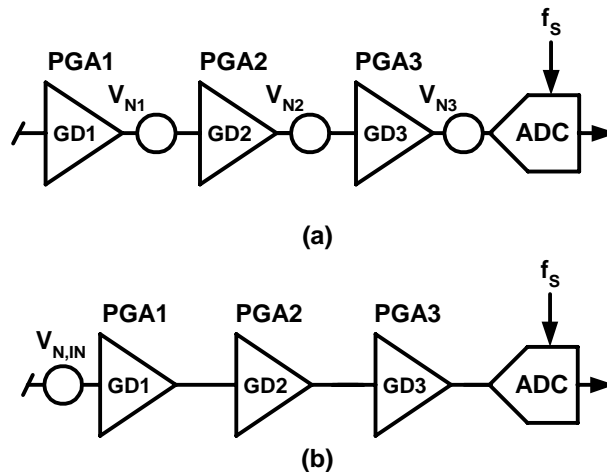
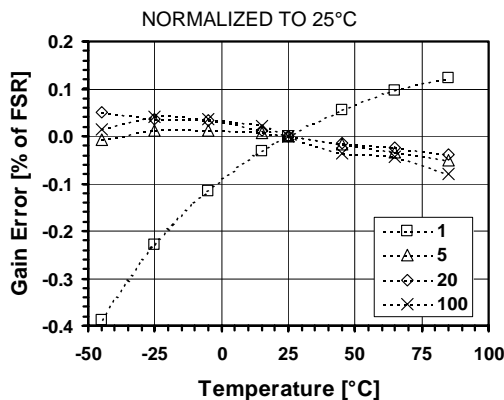

Figure 17-18. (a) Simple noise model for PGAs and ADC
Figure 17-19. Gain error vs. temperature for different PGA gains
- (1) Gain defined as overall PGA gain $GD_{TOT} = GD_1 \cdot GD_2 \cdot GD_3$. Maximum input voltage is given by: $V_{IN,MAX} = \pm(V_{REF}/2) \cdot (OSR/OSR+1)$.
- (2) Offset due to tolerance on $GDOFF_2$ or $GDOFF_3$ setting. For small intrinsic offset, use only ADC and PGA1.
- (3) Measured with block connected to inputs through AMUX block. Normalized input sampling frequency for input impedance is $f_s = 512kHz$. This figure must be multiplied by 2 for $f_s = 256kHz$, 4 for $f_s = 128kHz$. Input impedance is proportional to $1/f_s$.
- (4) Figure independent from PGA1 gain and sampling frequency f_s . See model of Figure 17-18(a). See equation Eq. 21 to calculate equivalent input noise.
- (5) Figure independent on PGA2 gain and sampling frequency f_s . See model of Figure 17-18(a). See equation Eq. 21 to calculate equivalent input noise.
- (6) Figure independent on PGA3 gain and sampling frequency f_s . See model of Figure 17-18(a) and equation Eq. 21 to calculate equivalent input noise.
- (7) Resolution is given by $n = 2 \cdot \log_2(OSR) + \log_2(N_{ELCONV})$. OSR can be set between 8 and 1024, in powers of 2. N_{ELCONV} can be set to 1, 2, 4 or 8.
- (8) If a ramp signal is applied to the input, all digital codes appear in the resulting ADC output data.
- (9) Gain error is defined as the amount of deviation between the ideal (theoretical) transfer function and the measured transfer function (with the offset error removed). (See Figure 17-19)
- (10) Offset error is defined as the output code error for a zero volt input (ideally, output code = 0). For ± 1 LSB offset, N_{ELCONV} must be ≥ 2 .
- (11) INL defined as the deviation of the DC transfer curve of each individual code from the best-fit straight line. This specification holds over the full scale.
- (12) DNL is defined as the difference (in LSB) between the ideal (1 LSB) and measured code transitions for successive codes.
- (13) Figures for Gains = 1 to 100. PSRR is defined as the amount of change in the ADC output value as the power supply voltage changes.
- (14) Conversion time is given by: $T_{CONV} = (N_{ELCONV} \cdot (OSR + 1) + 1) / f_s$. OSR can be set between 8 and 1024, in powers of 2. N_{ELCONV} can be set to 1, 2, 4 or 8.
- (15) PGAs are reset after each writing operation to registers RegAcCf1-5. The ADC must be started after a PGA or inputs common-mode stabilisation delay. This is done by writing bit START several cycles after PGA settings modification or channel switching. Delay between PGA start or input channel switching and ADC start should be equivalent to OSR (between 8 and 1024) number of cycles. This delay does not apply to conversions made without the PGAs.
- (16) Nominal (maximum) bias currents in PGAs and ADC, i.e. $IB_AMP_PGA[1:0] = '11'$ and $IB_AMP_ADC[1:0] = '11'$.
- (17) Bias currents in PGAs and ADC set to 3/4 of nominal values, i.e. $IB_AMP_PGA[1:0] = '10'$, $IB_AMP_ADC[1:0] = '10'$.
- (18) Bias currents in PGAs and ADC set to 1/2 of nominal values, i.e. $IB_AMP_PGA[1:0] = '01'$, $IB_AMP_ADC[1:0] = '01'$.
- (19) Bias currents in PGAs and ADC set to 1/4 of nominal values, i.e. $IB_AMP_PGA[1:0] = '00'$, $IB_AMP_ADC[1:0] = '00'$.
The simple noise model of Figure 17-18(a) is used to estimate the equivalent input referred rms noise $V_{N,IN}$ of the acquisition chain in the model of Figure 17-18(b). This is given by the relationship:
Note: see noise model of Figure 17-18 and equation Eq. 21.
Figure 17-19 shows gain error drift vs. temperature for different PGA gains. The curves are expressed in % of Full-Scale Range (FSR) normalized to 25°C.